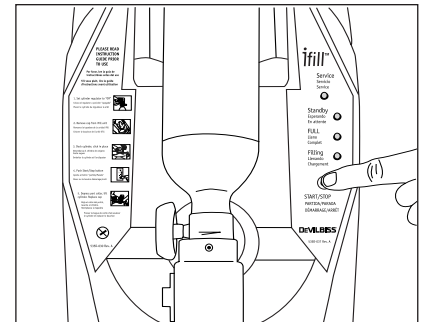

Figure 3
3. Push the start/stop switch on the control panel (Figure 3).